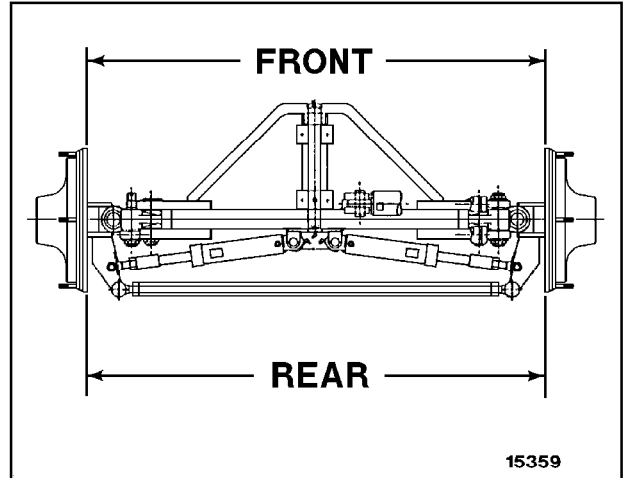

Figure 11
- A. Measure the distance between the wheels of the grader on the same horizontal centerline as the spindle axle. These measurements must be taken at both the front and rear of the wheels (Figure 11).